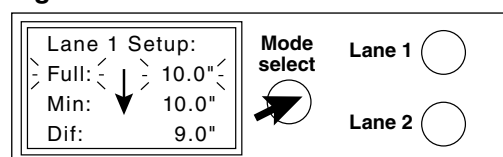

Fig. 6
4. Press LANE 1 button to increase ice level sensor set point and LANE 2 to decrease ice level sensor set point, (Fig. 6) to correspond to the drop-in dispenser ice level sensor settings listed in table above.